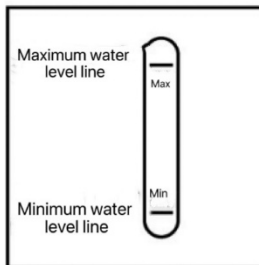

Figure 2
3. Align the two locking points on the bottom of the unit with the corresponding positioning sleeves on the base. Ensure the screw hole on the base aligns with the screw hole on the unit, then tighten the screw with a screwdriver to secure the base to the unit (see Figure 2).
- b. Fill the tank according to the water level indicator shown on the water level window (see Figure 2).